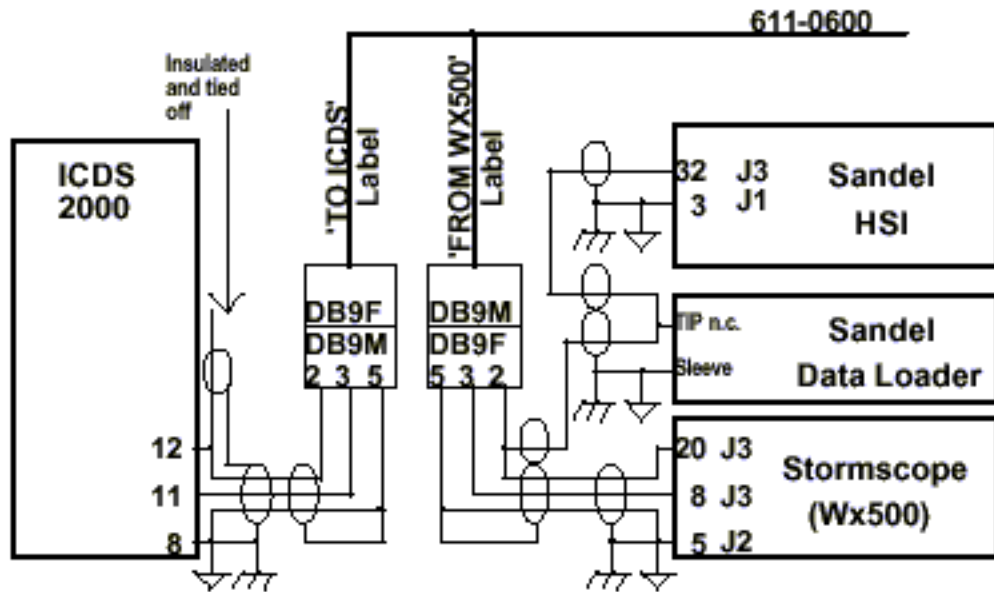

Figure 10.3.3
10. Plug the new male DB9 from the ICDS 2000 into the 611-0600 harness DB9 labeled 'To ICDS Com 2' (Refer to **Figure 10.3.3**)
11. Plug the new female DB9 from the Stormscope into the 611-0600 harness DB9 labeled 'From Wx500'. (Refer to **Figure 10.3.3**)